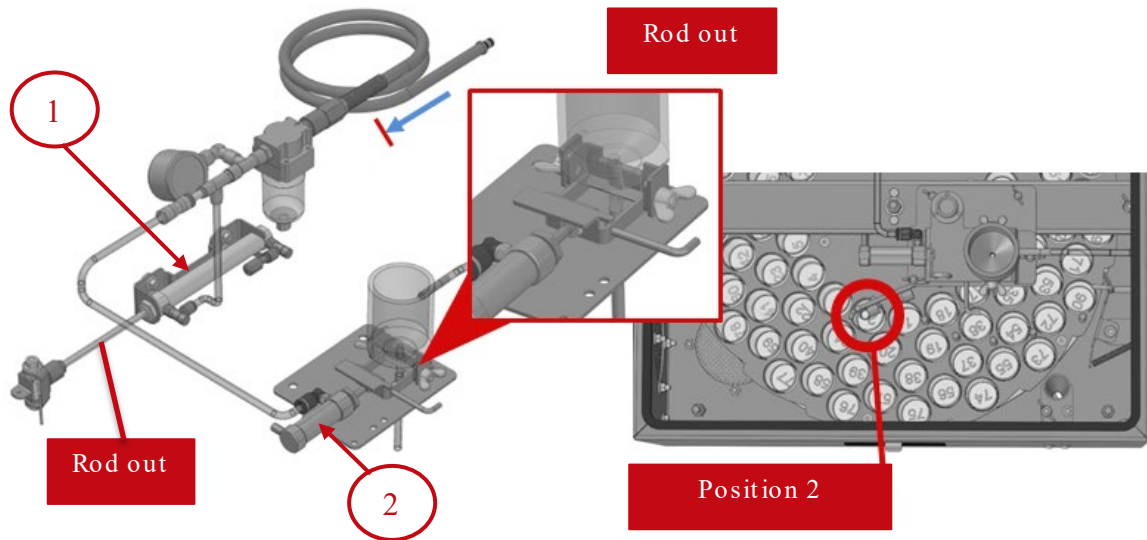

Figure 66. Next position
Without air pressure activated by the robot, the cylinder (1) is released by the external spring, the crown rotates, and the dispenser changer tube is positioned in position 2. The cylinder (2) takes out the rod and presses the silicone tube, filling is finished (see Figure 66).